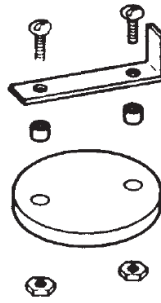

Figure 7
2. Suggest and justify the suitable modifications on the design of the following components as shown in figure 7 to ensure proper assembly with minimum effort.